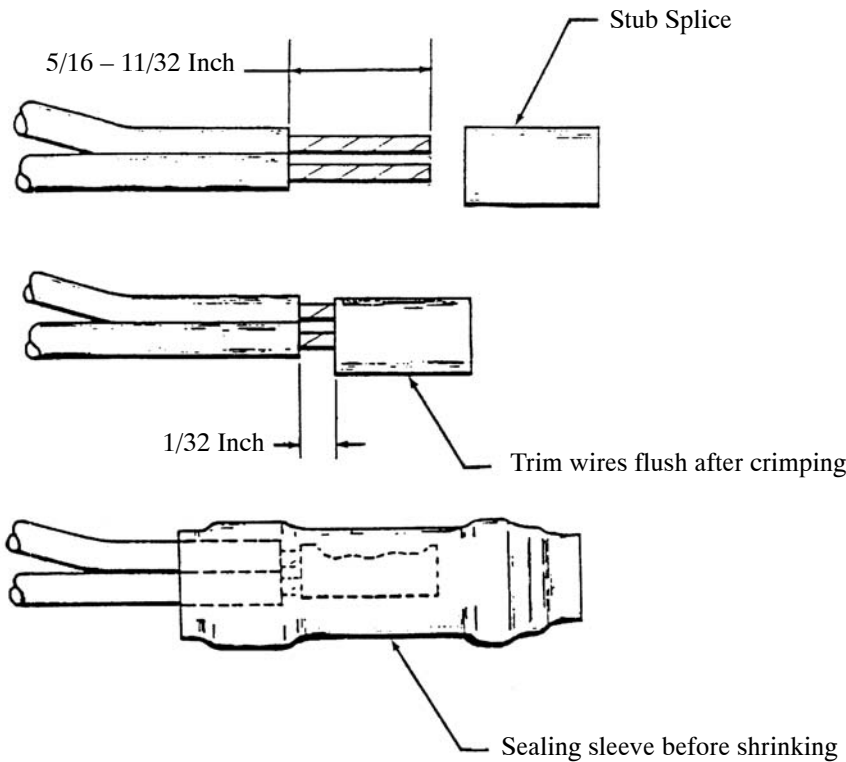

Figure 15. Environmental Sealed Stub Splice Installation
17. **End Caps (Stub Splice).** End caps, also known as stub splices, are used to terminate parallel wires from the same side of the splice (Table 3, Figure 15).